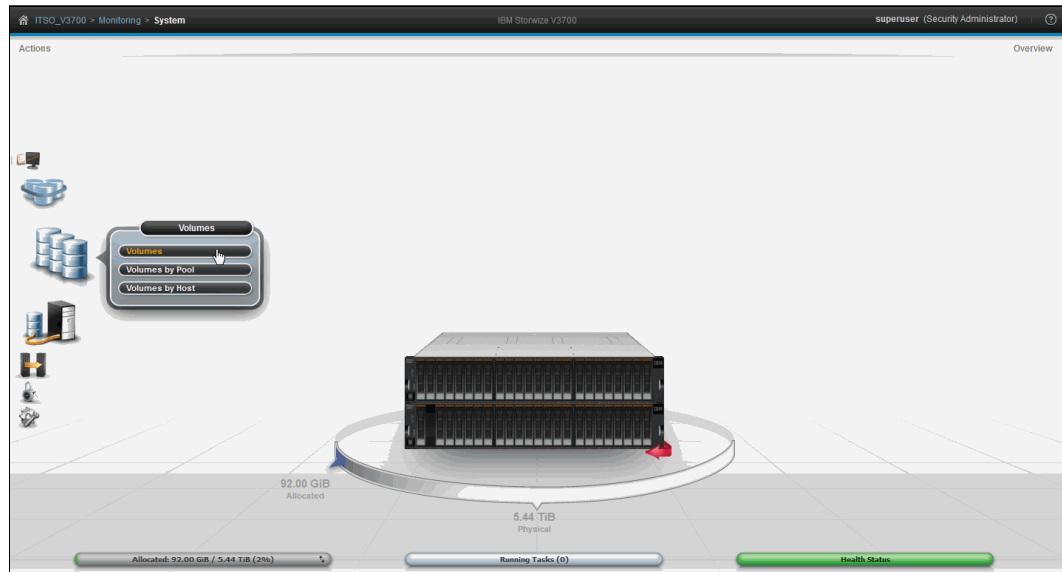

Figure 5-1 Opening the Volumes view
1. Open the Volumes view by navigating to **Volumes** → **Volumes**, as shown in Figure 5-1.